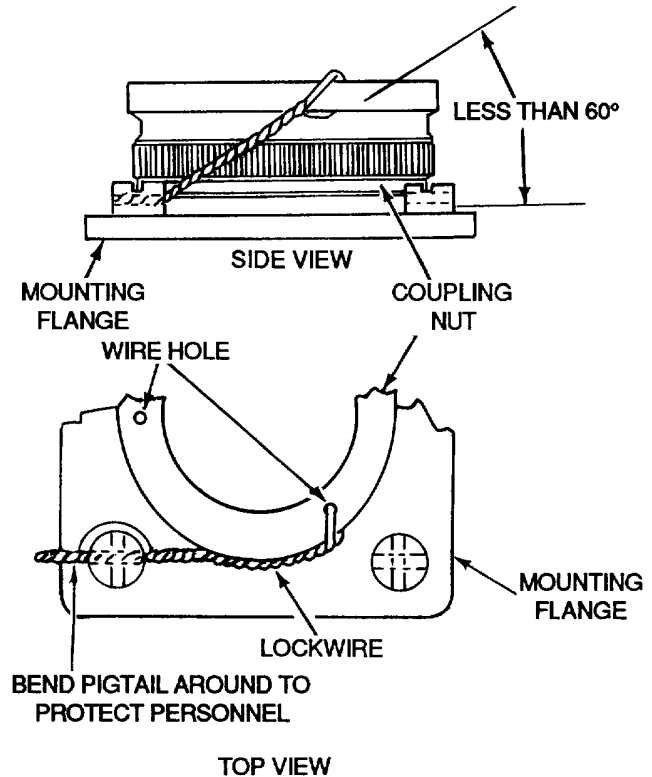

Figure 1. Double Twist Method
11. **DOUBLE TWIST METHOD.** The double twist method is used for all equipment in areas of high vibration and in areas that are not accessible for periodic maintenance inspections. The lockwiring procedure is as follows (Figure 1):
16. **Flanged Receptacle.** Connectors mated to a flanged receptacle shall be lockwired to one of the thru holes in fillister head mounting screws (Figure 1).